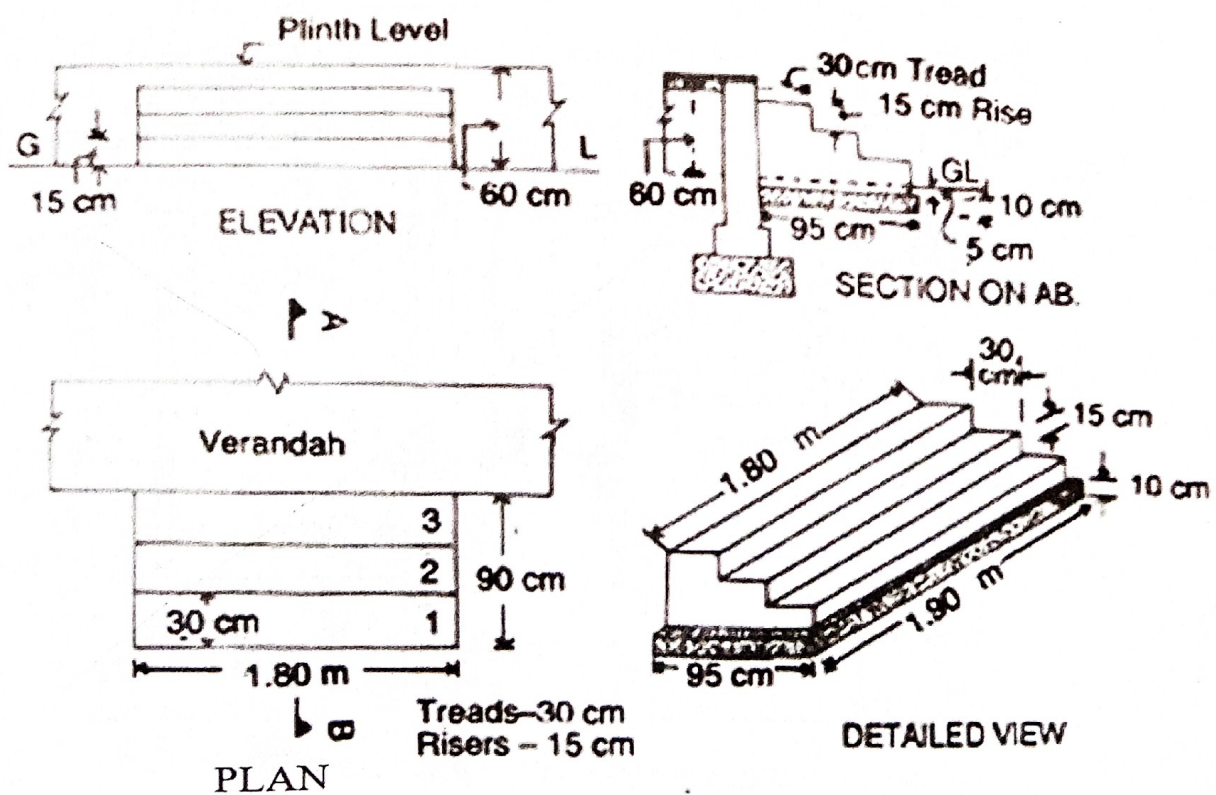

Figure 1
- f. Calculate quantity of earthwork and Brickwork from Figure1.